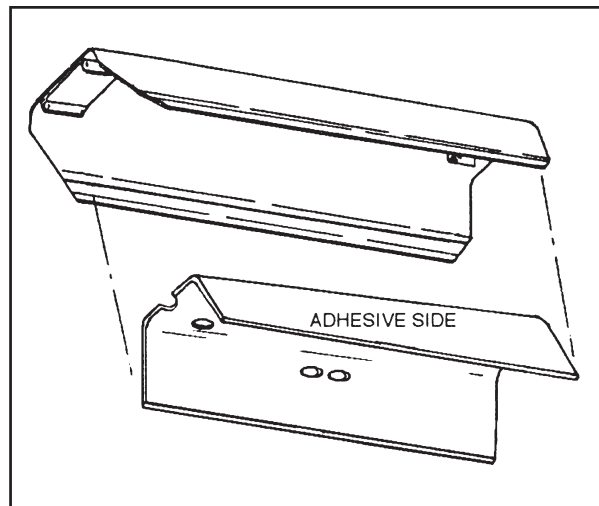

Figure 2. Lid Insulation Installation
3. Remove the adhesive backing from the "lid" insulation pad (see Figure 2).